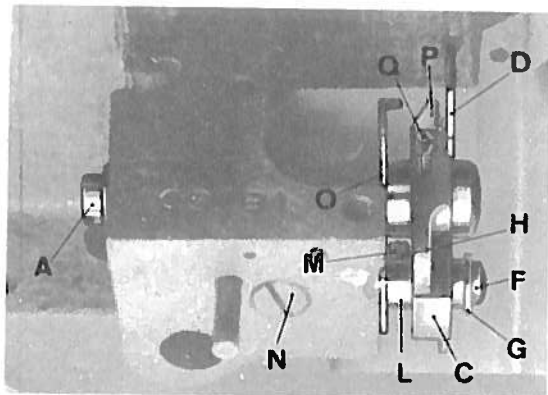
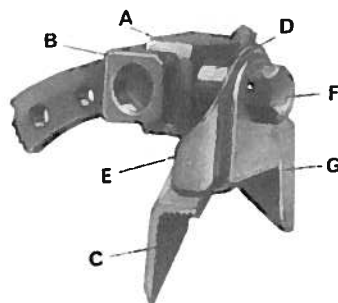

fig. 11
fig. 15
- With the needle in its lowest position, loosen screw F (fig. 11) and adjust needle guard support bracket P so that it touches the back of the rear needle guard.
- Loosen screw A (fig. 11).
- Place upper knife C (fig. 15) in upper knife holder A.
- Mount upper knife holder block D and trimming guards E and G (fig. 15) with screw F.
- Slide upper knife C against lower knife D (fig. 11) and check to see that cutting edge of top knife overlaps 1/16 inch the cutting edge of the bottom knife. If adjustment is required, move upper knife holder block A (fig. 15) left or right until the conditions described above, are obtained.
- Turn handwheel clockwise until upper knife holder block A (fig. 15) is in its uppermost position.
- Loosen screw N. (fig. 11)
- Activate lower knife holder C (fig. 11) by hand to the left.
- Retighten screw N (fig. 11).
10. Mounting the upper knife (fig.15)